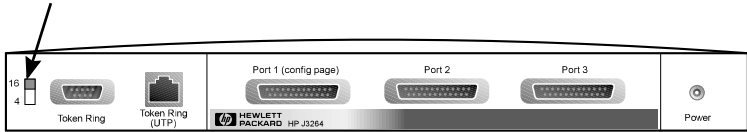

Figure 3-1 Token Ring data-rate switch set at 16 Mbps on the HP J3264
- For a Token Ring print server (J3264), set the data-rate switch to the appropriate speed (4 Mbps or 16 Mbps) (Figure 3-1). Take a pen or similar object and slide the switch up for 16 Mbps or down for 4 Mbps.